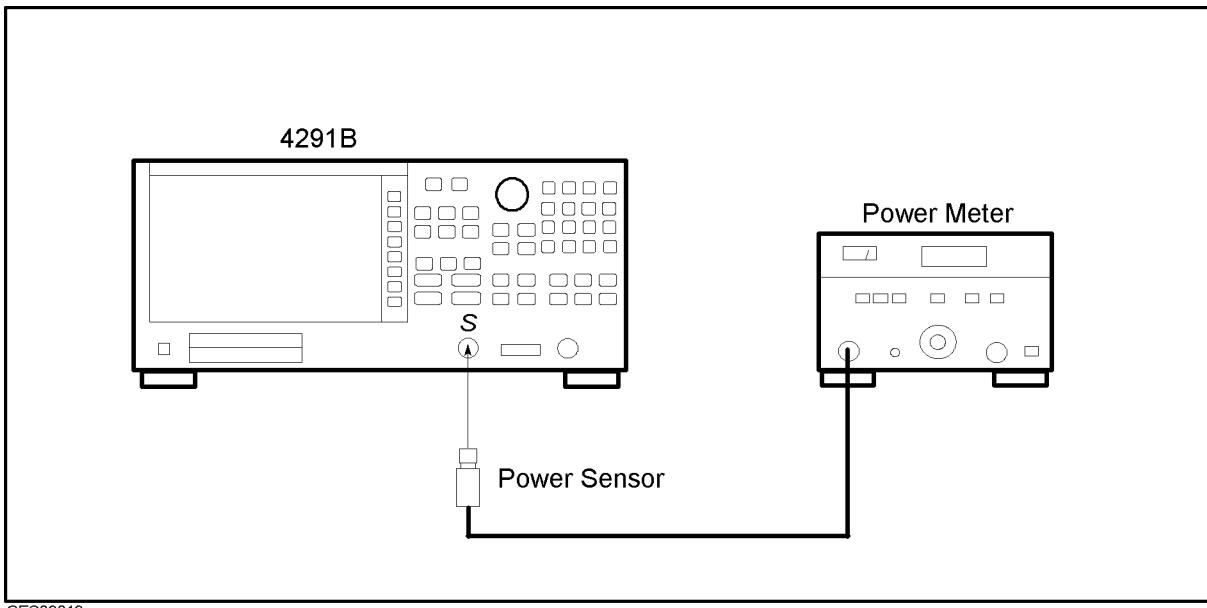

Figure 3-15. OSC Level Correction Constants Setup
3. Follow the adjustment program instructions to update the correction constants. Figure 3-15 shows the equipment setup for the Correction Constants.